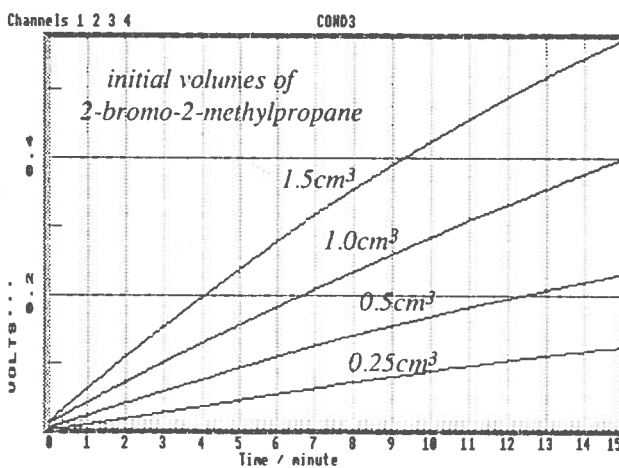
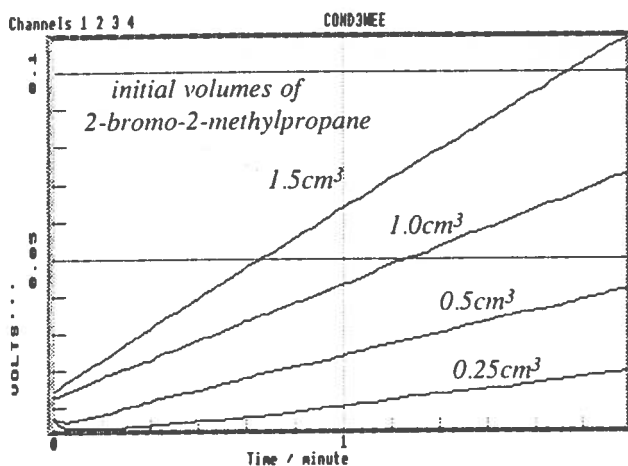

Fig.11 Voltage vs. time for 4 different initial volumes of 2-bromo-2-methylpropane
Fig.12 First 2 minutes from Fig.11
4. superpose 4 plots of conductivity vs. time on same graph (Fig.11)
5. select first 2 minute part of above 4 graphs (Fig.12)
5 Figs.11 and 12 show only four plots logged at different initial volumes of alkyl halide whereas Fig.13 shows six derived values of rate vs. initial volume. This is because *Datadisc Plus* can display a maximum of four channels at any one time. We also included rate data from initial volumes of 0.75 and 1.25  $\text{cm}^3$  not shown in Fig.12.
Two minutes datalogging for each is enough to determine the initial rates. Fig.11 shows four voltage vs. time plots for four different initial volumes of 2-bromo-2-methylpropane. With the *Select part of data* on the *Display Utilities Menu* we select only what happened in the first two minutes for analysis (Fig.12). Calculating the gradients of these lines in the same way as in Analysis 1, we are able to plot initial rate (arbitrary units) versus initial volumes of 2-bromo-2-methylpropane. It can be clearly seen from Fig.13 that any increase (e.g. doubling or tripling) in the initial volume of alkyl halide results in a consequent size of increase in the rate. This is indicative of a first order reaction with respect to the concentration of alkyl halide.